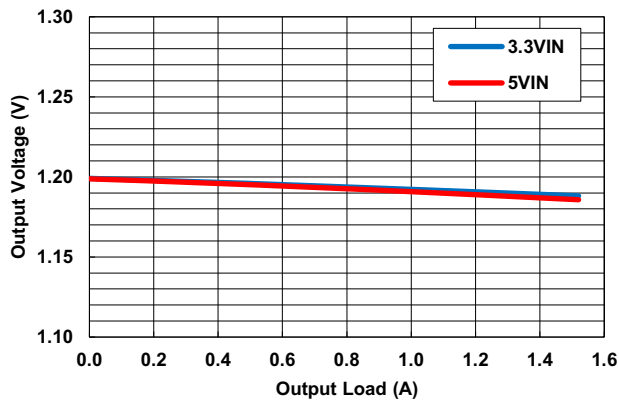

Figure 16. V_{OUT} Regulation vs Load, $V_{OUT2} = 1.2\text{V}$
- Not tested in production. Characterized using evaluation board. See load regulation diagrams (Figures 16 through 19). +105°C T_A represents near worst case operating point.